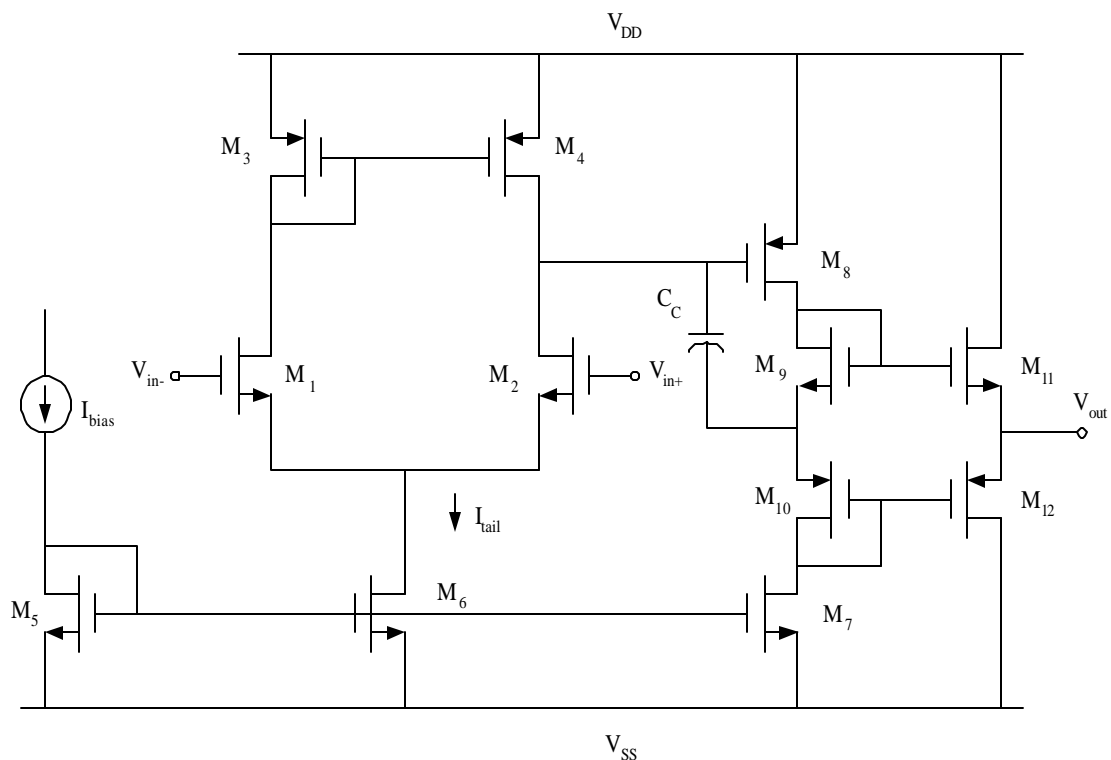

Fig.1 Three-stage operational amplifier
The schematic of the circuit is given below as Fig. 1. It is a three-stage Operational Amplifier. The first stage is a differential pair with NMOS input transistors and PMOS current mirror load. The second stage is a PMOS common source gain stage and the last stage is a class AB push-pull output stage. Note that the diode connected transistors M_9 and M_{10} are used to bias the output source follower transistors at class-AB. A Miller compensation capacitor C_c is added to the second stage to ensure stable operation of the amplifier in closed loop.
Design the operational amplifier of Fig.1 with AMI 0.5 μ m CMOS technology to comply with the following specifications:
- a) The detailed design procedure for the amplifier. Please tabulate the key design parameters, like (W/L)’s and bias currents of the transistors. Please name the transistors exactly the same as Fig. 1.
- b) Preliminary DC, AC and transient (SR) simulation results, including, i) DC input referred offset; ii) input output characteristic plot of the amplifier (DC sweep); iii) Frequency response of the amplifier (AC sweep), please indicate GBW and phase margin in the AC plot; iv) SR simulation plot